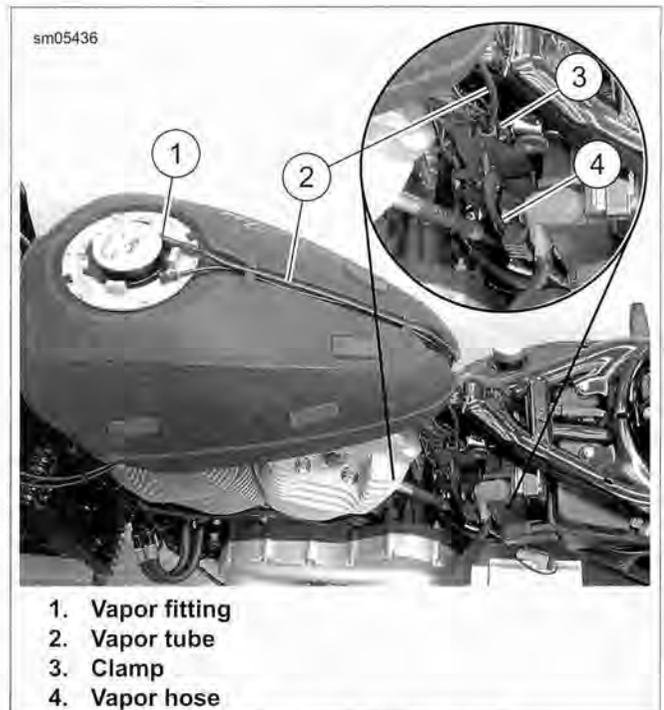
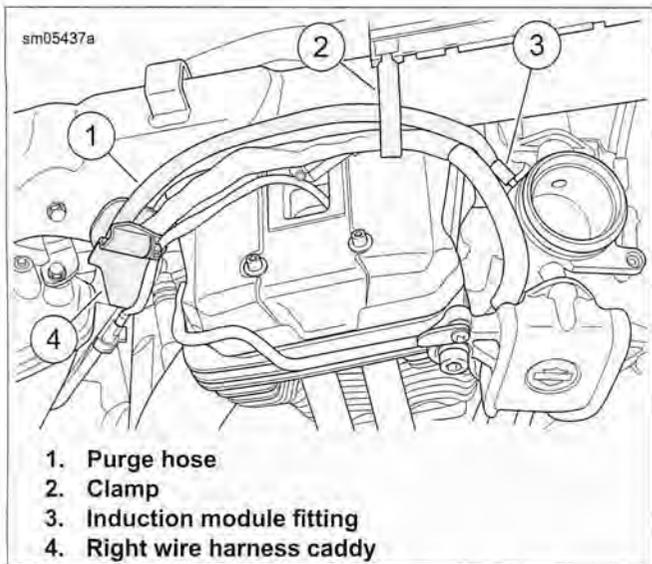

Figure 4-92. Vapor Hose Routing
Figure 4-93. Purge Hose Routing
- See Figure 4-92. Route fuel vapor hose (4) up along left side of frame rear downtube and outside the left electrical caddy. Connect to vapor tube (2).
- Connect vapor tube (2) to fitting (1) on fuel tank filler housing and place in channel on top of fuel tank.
- Secure to electrical caddy with barbed clamp (3).
- See Figure 4-93. Route canister-to-induction module purge hose (1) up right side of frame rear downtube. Continue routing hose forward along right side of frame backbone tube and down, connecting hose to induction module fitting (3).